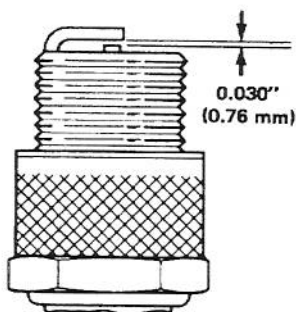

Figure 37
3. Set air gap between electrodes of new spark plug at 0.030 of an inch (0.752 mm) (Fig. 37). Next, install spark plug in cylinder head. Tighten plug to 15 ft-lb (20.4 N·m). If torque wrench is not used, tighten plug firmly.